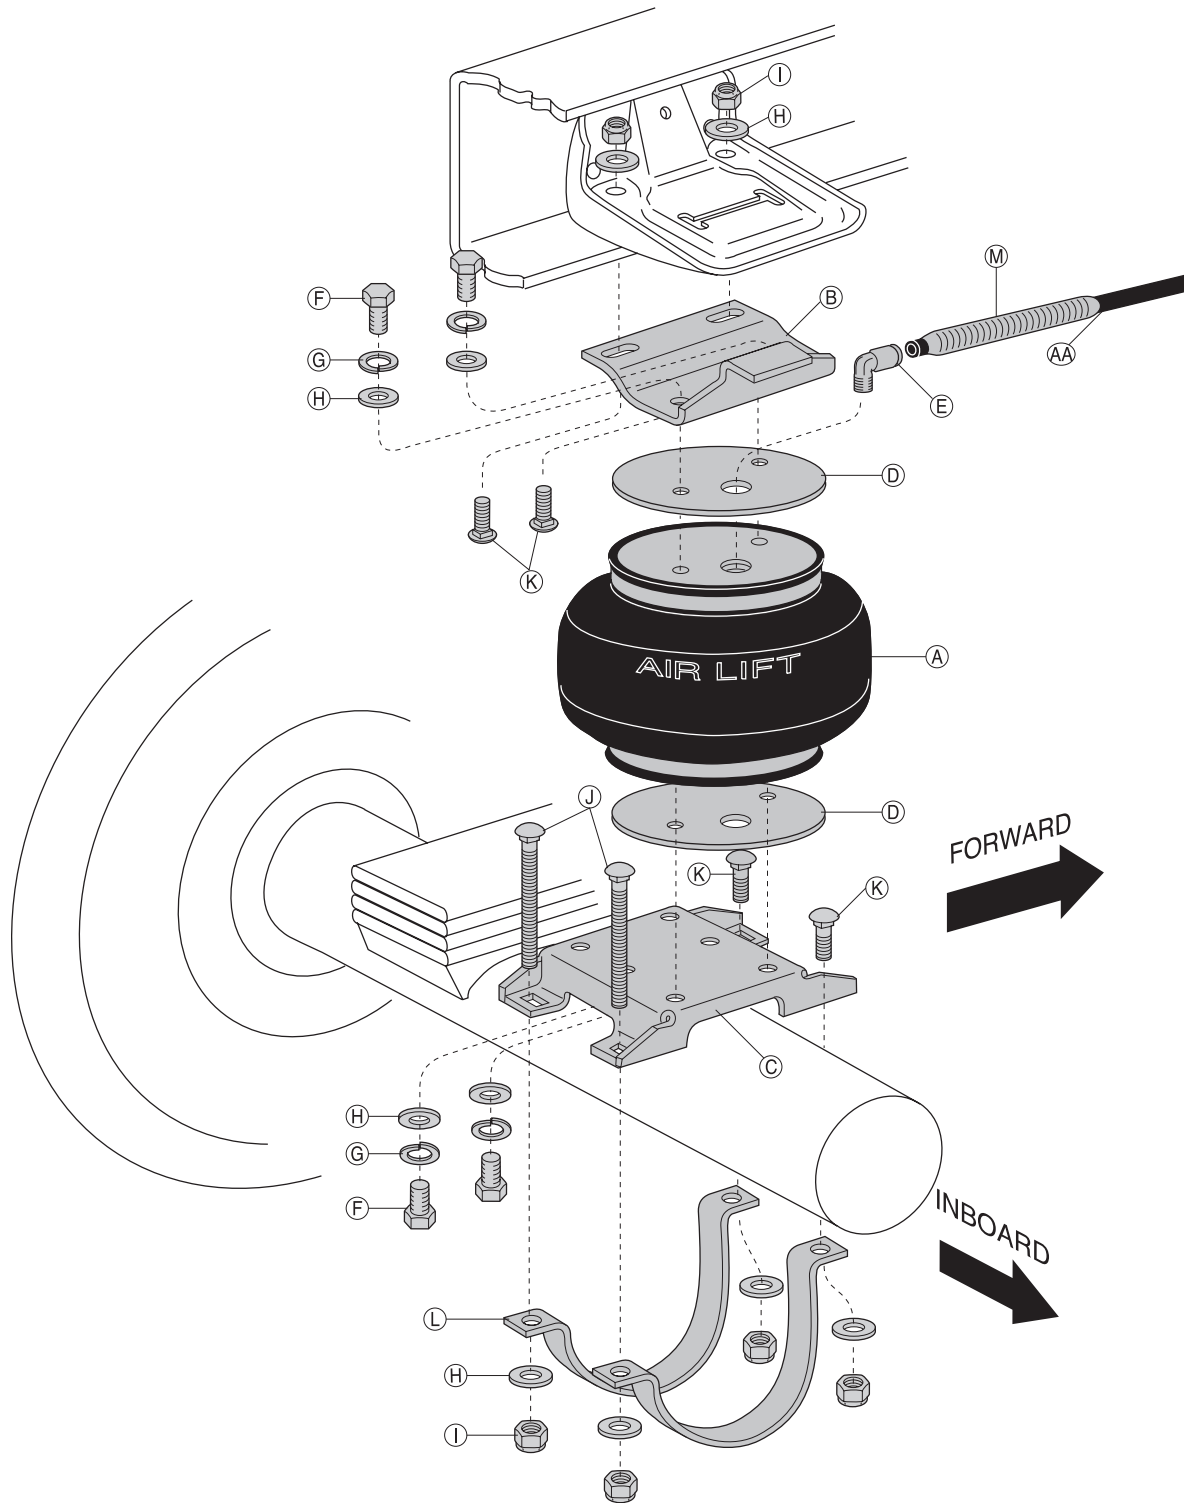

fig. 1
(* not shown in Fig. 1)
4. Insert two short carriage bolts (K) into the upper bracket (Fig. 1).
- Secure the upper bracket to the frame and jounce bumper bracket using a flat washer (H) and nylock nut (I) on each carriage bolt (Fig. 1).
- Install two 3/8 " x 1.5" carriage bolts (K) in the two forward facing holes of the lower bracket (Fig. 1).
- Install two 3/8 " x 3.5" carriage bolts (J) in the rearward facing holes of the lower bracket (Fig. 1).
- Install the J-straps (L) with the long leg to the front of the vehicle. Loosely attach the straps using flat washers (H) and 3/8 " lock nuts (I). Refer to Figs. 1 and 7.